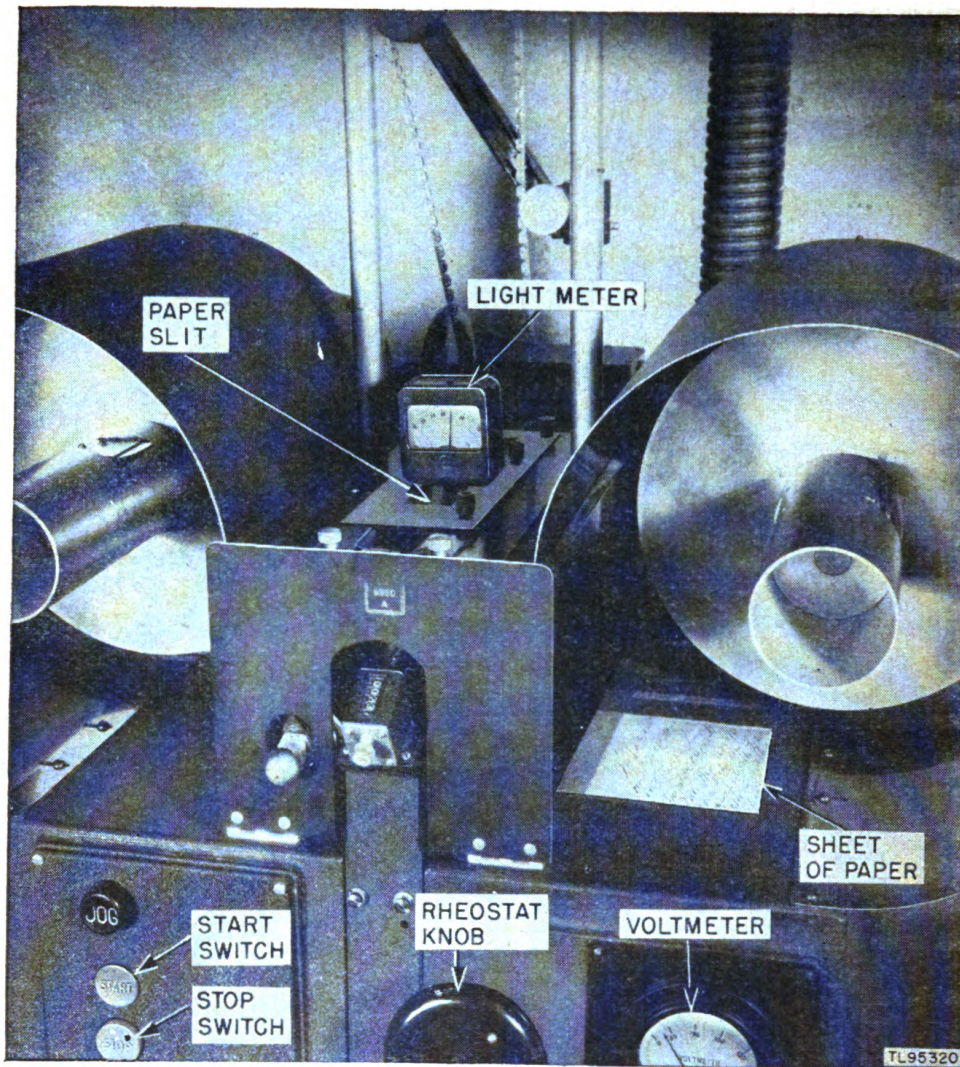

Figure 7. Adjusting running voltage on Enlarger PH-285.
## 8. Regulating Voltage on Enlarger PH-285 (fig. 7)
- a. Set the light meter on top of the paper slit as shown in figure 7.